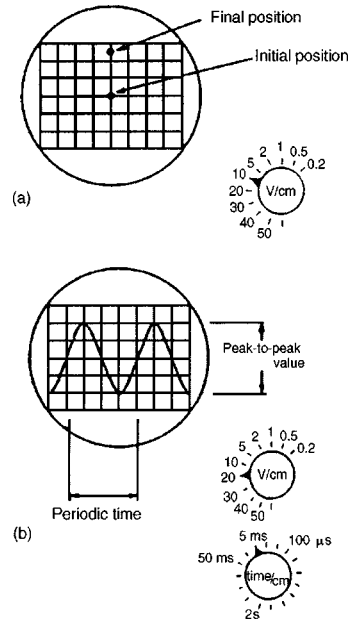

Figure 10.15
- With **direct voltage measurements**, only the Y amplifier ‘volts/cm’ switch on the oscilloscope is used. With no voltage applied to the Y plates the position of the spot trace on the screen is noted. When a direct voltage is applied to the Y plates the new position of the spot trace is an indication of the magnitude of the voltage. For example, in Fig. 10.15(a), with no voltage applied to the Y plates, the spot trace is in the centre of the screen (initial position) and then the spot trace moves 2.5 cm to the final position shown, on application of a d.c. voltage. With the ‘volts/cm’ switch on 10 volts/cm the magnitude of the direct voltage is $2.5 \text{ cm} \times 10 \text{ volts/cm}$, i.e. 25 volts.
- With **alternating voltage measurements**, let a sinusoidal waveform be displayed on an oscilloscope screen as shown in Fig. 10.15(b). If the time/cm switch is on, say, 5 ms/cm